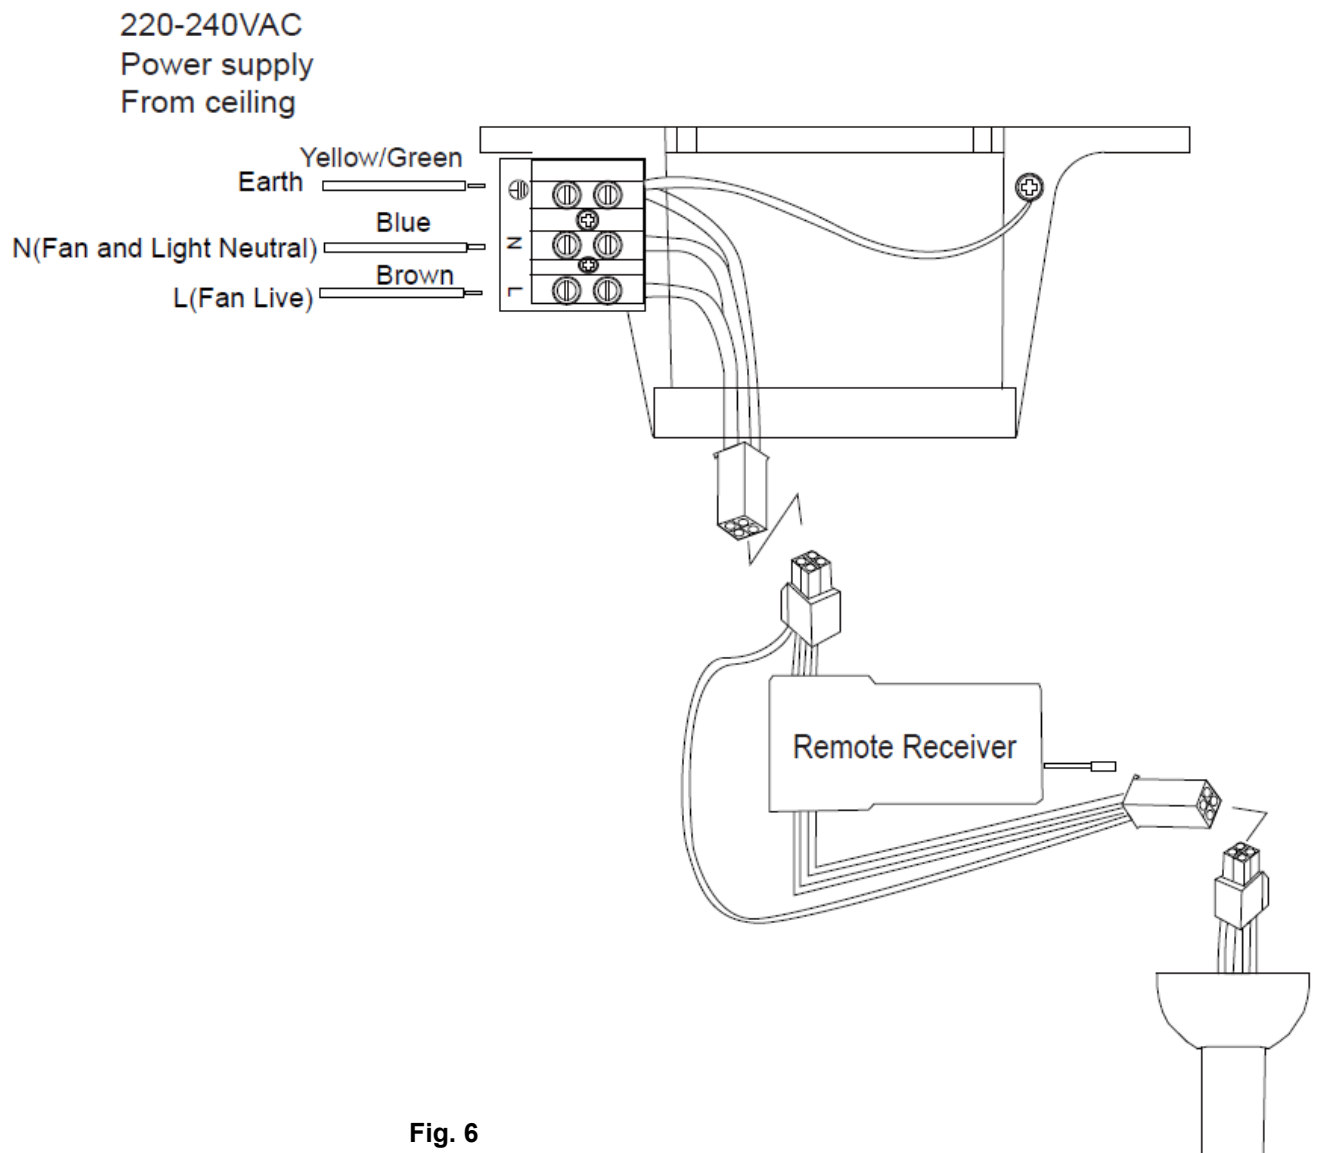

Fig. 6
PREPARE AND COMPLETE THE ELECTRICAL WIRING --- WIRING DIAGRAM (FIG. 6)
MAKING THE ELECTRICAL CONNECTIONS (see Fig. 6)
7. Connect **TO MOTOR N** of control unit wire to the **MOTOR (N)** fan wire.
8. Connect **TO MOTOR L** of control unit wire to the **MOTOR (L)** fan wire.
12. Lay the control unit in the CANOPY. (See Fig. 6).